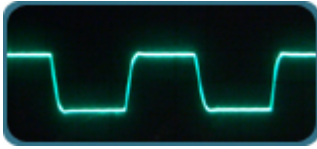

Figure 3 Square wave response at 10 kHz Measured by Tektronix CFG 253 Oscillator and KENWOOD CS-4125 Oscilloscope
- Use of a five-sectioned sandwich winding method for the transformers reduces leakage, inductance and capacitance. This significantly improves high frequency response, as shown below (Fig. 3).